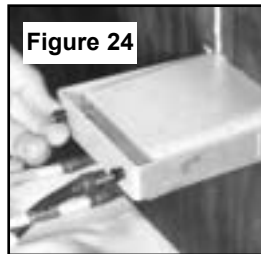

Figure 24
**STEP 4:** Install Control Head clamps and tighten wing nuts provided. Make sure Keypad Assembly is firmly mounted to console (see figure 24).